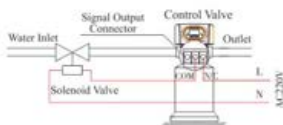
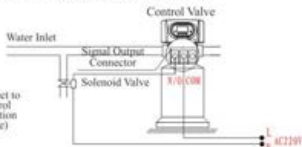

Figure 3-2 Wiring of Solenoid Valve on Inlet
Figure3-3 Wiring of Pressure Relief Port
②Control Inlet Solenoid Valve ( Set b-02)
**Instruction:** When inlet pressure exceeds 0.6MPa, install a solenoid valve on inlet. Control mode is b-02. Pressure is relieved when valve switching, the wiring refers to Figure 3-2. As Figure 3-3 shows, it also can use the pressure relief connector to work.